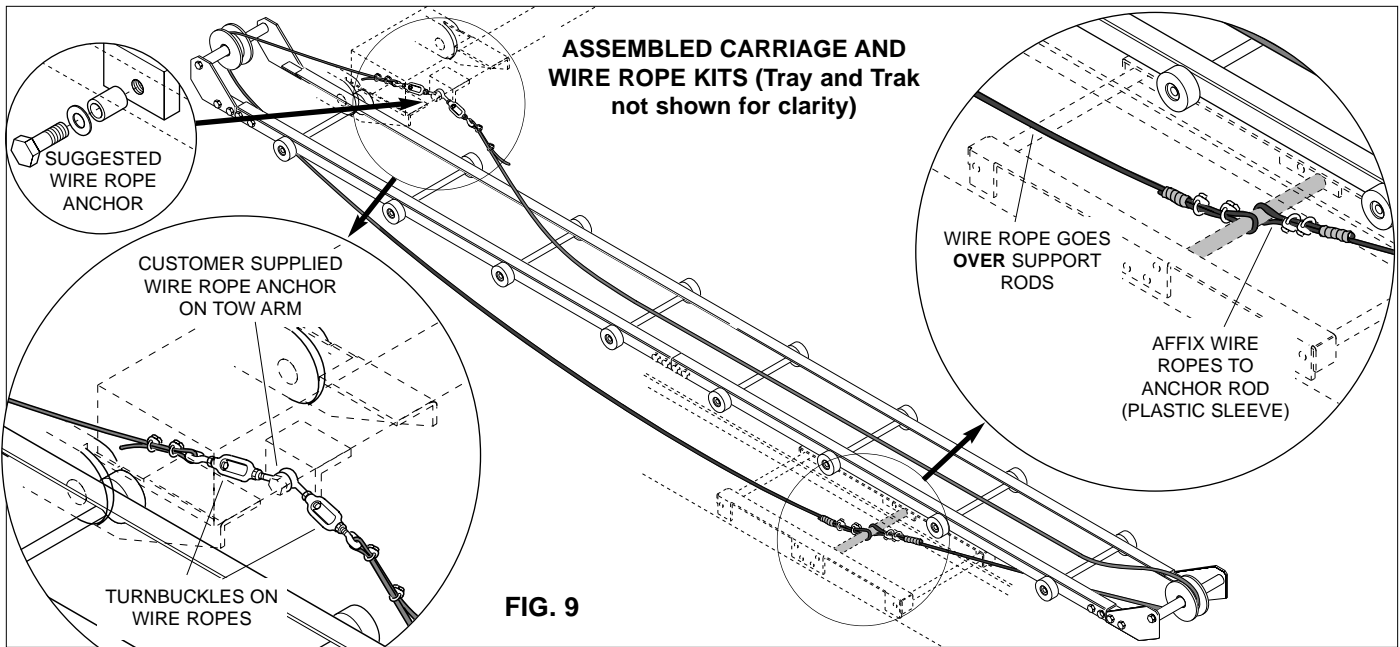

FIG. 9
STEP 3: Attach wire ropes to anchor rod (center rod with plastic sleeve) on carriage transfer shelves in guide tray. (See Fig 9). Run wire ropes **over** support rods, beneath carriage, around sheaves at both ends of carriage assembly and up to anchor on tow arm. Attach the turnbuckles to tow arm as shown. Adjust length of turnbuckles to 12" (305mm) overall. **DO NOT PULL WIRE ROPES TIGHT AT THIS TIME.**